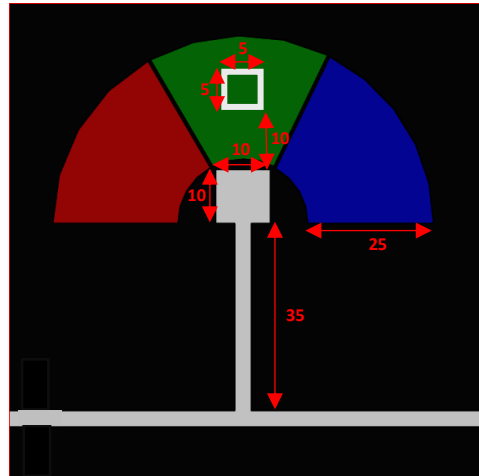
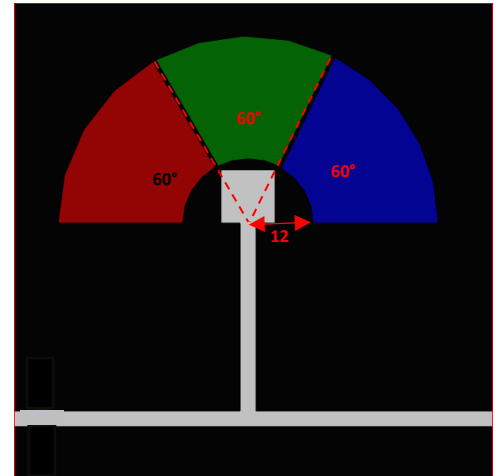

Figure 3.1
Figure 3.2
- The dimensions of the Area-1 is shown in the Figure 3.1 and Figure 3.2.